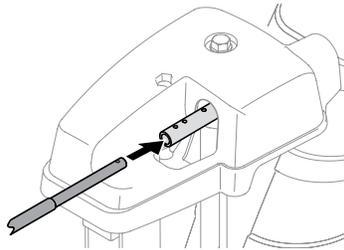

Figure 2-36
2. Insert round end of chute control rod into chute control head. Push rod as far into chute control head as possible, keeping holes in rod pointing upward. See Figure 2-36.